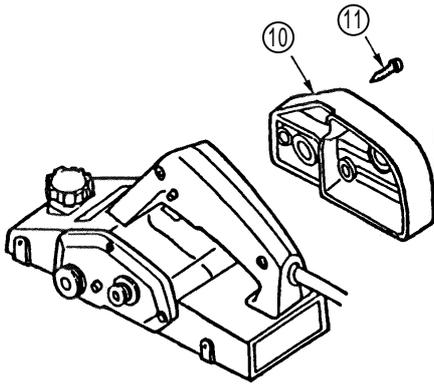
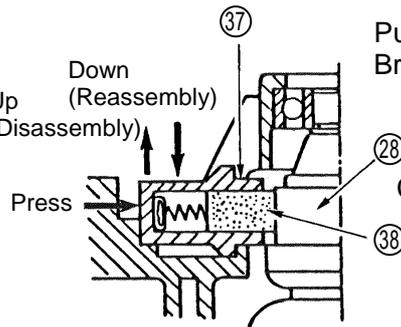

Fig. 3
Fig. 4
(2) Removal of the Carbon Brushes: (Figs. 3, 4 and 5)
- Loosen the three D4 x 16 Tapping Screws (11), and remove the Tail Cover Ass'y (10).
- To remove the Brush Holders (37), as illustrated in Fig. 4, gently lift the Brush Holders upward while pressing their rear portions toward the commutator surface of the Armature (28). At this time, be very careful not to pull out excessively on the Internal Wires (A) (19).
(5) Reassembly of the Carbon Brushes and Brush Holders:
When reassembling the Carbon Brushes (38) and Brush Holders (37), please refer to Figures 4 and 5, above.